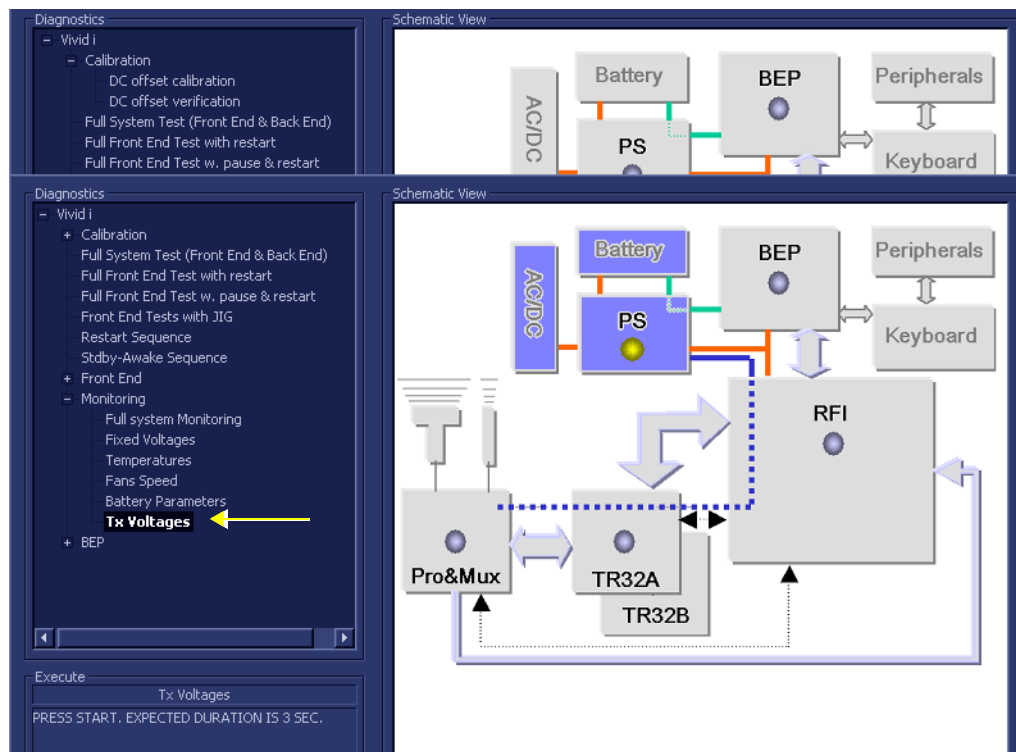

Figure 7-72 Tx Voltages Test
- 1.) In the *Diagnostic Test* window, trackball to **Tx Voltages** in the list of *Monitoring* tests available for selection from the Diagnostic Test Tree (see Figure 7-72 below) and press **Set**. The Tx Voltages Test name is displayed under *Execute*; the relevant system components to be tested are highlighted light blue in the Schematic View (AC/DC, Battery, PS), as shown below: